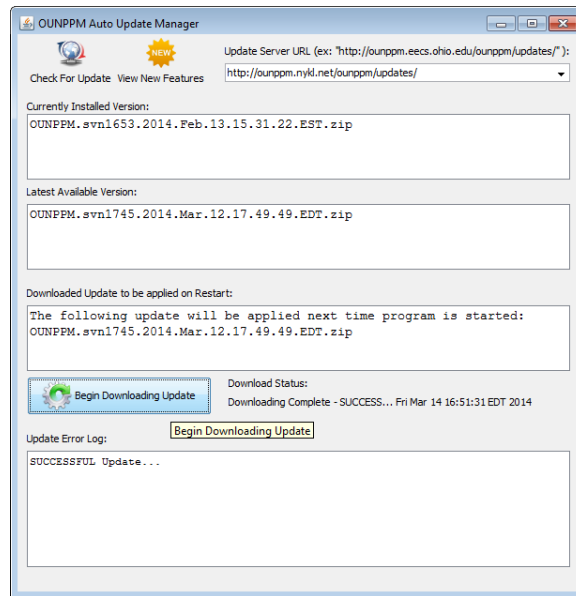

Figure 121: After a successfully downloaded update, OUNPPM must be exited and reopened for the updates to take effect.
3. If a newer version is available and the user would like to upgrade, click on the *Begin Downloading Update* button in mid/lower left part of the screen, as shown in Fig.121.